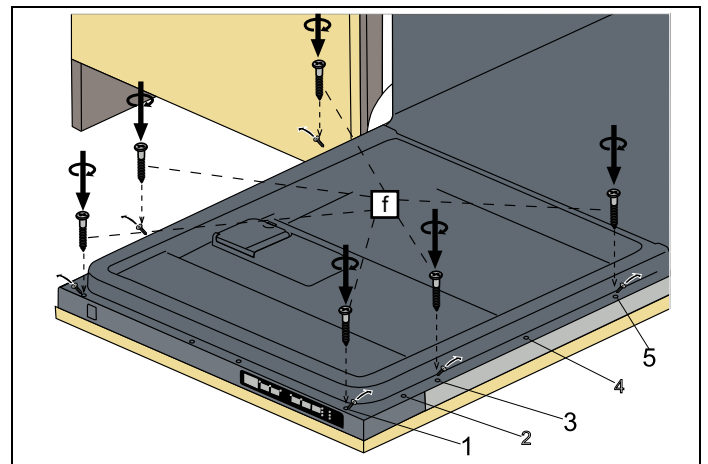

Fig. 27
- 6) The screws located on the wooden door are fitted to the dishwasher at the discharges located on the door outer sheet and are assembled as shown in Fig. 27 .
- 7) As shown in Fig. 27 , Screws $\varnothing 5/32'' \times 53/32''$ ($\varnothing 4$ mm x 42.5mm) are installed in positions I, III and V.